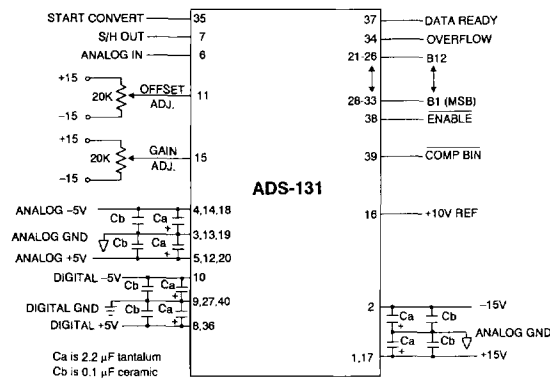

Figure 2. Typical ADS-131 Connections
1. **Connect the converter per Figure 2.**